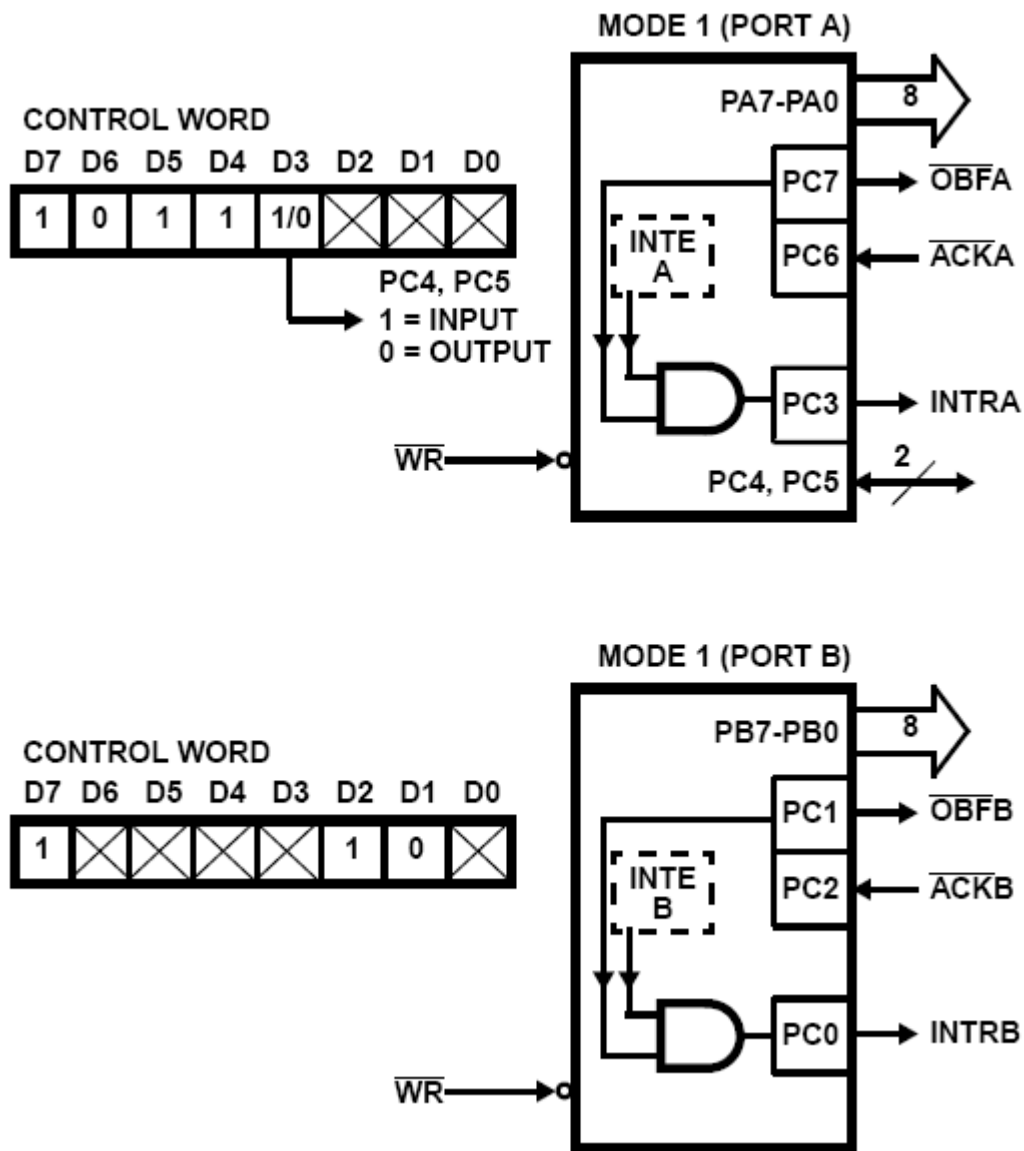

Figure 8: Mode 1 output.
- Figure 8 shows the control signals for output configuration.